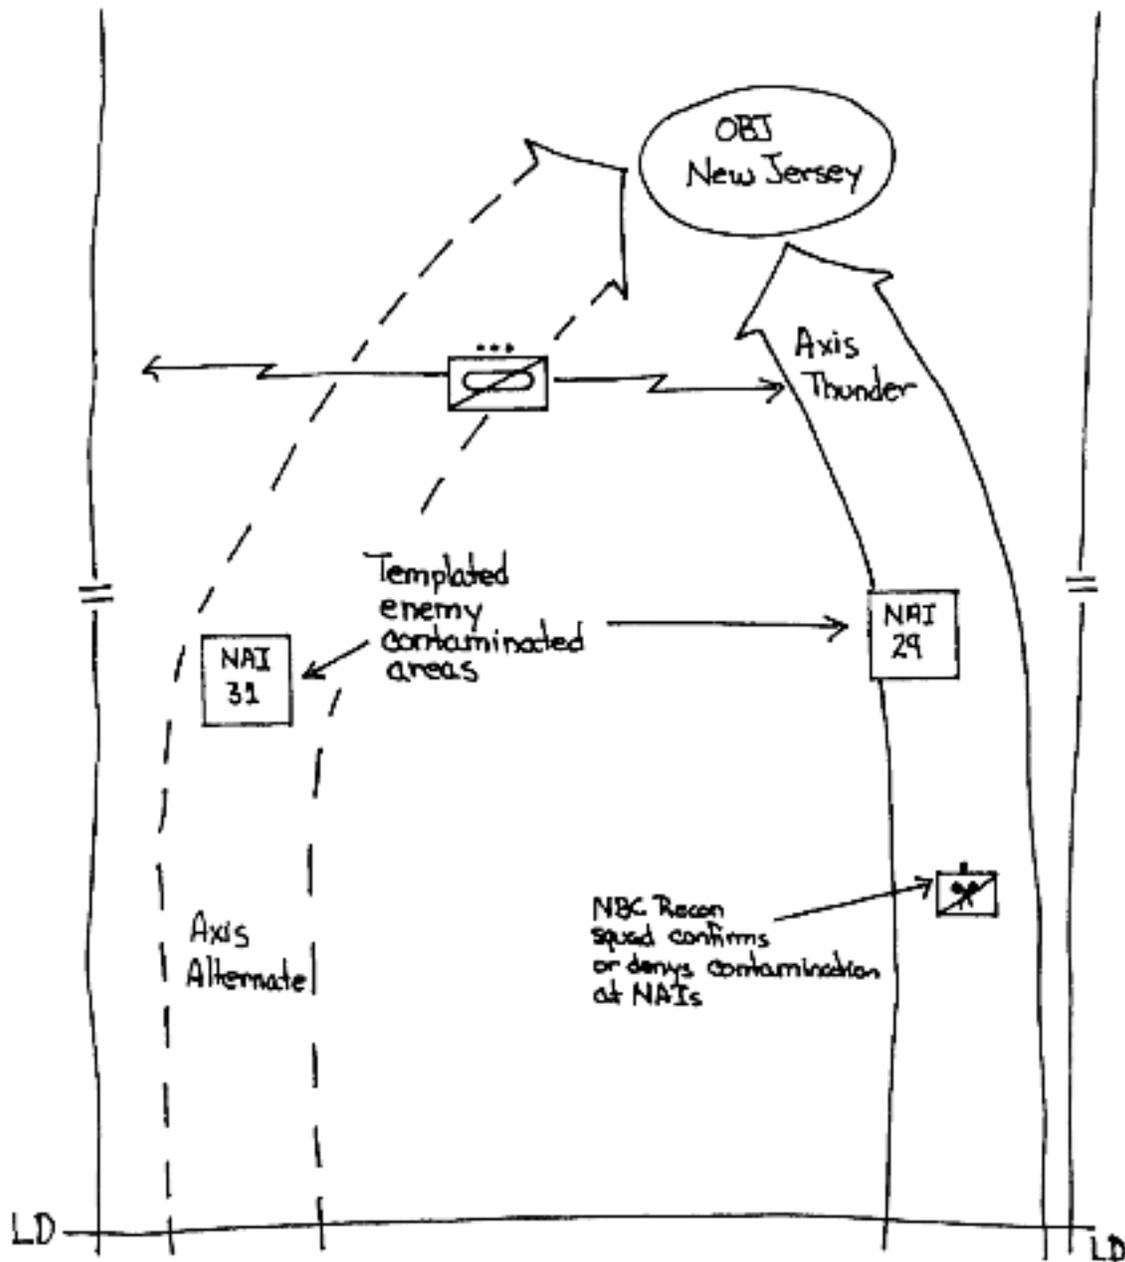

Figure 5-4. Battalion/task force supported by an NBC reconnaissance squad.
Figure 5-4 is an example of a battalion task force (TF) supported by an NBC recon squad. The NBC recon squad is attached to the TF's scout platoon. The S2 and chemical officer have templated a possible persistent chemical attack that could influence maneuver along the TF's planned axis of advance. The NBC recon squad has the mission of performing a route recon along the TF's planned axis to the designated NAI. The NBC recon squad will confirm or deny the presence of contamination at the NAI. The main body of the scout platoon will cross the line of departure three hours before the NBC recon squad. A tank platoon will be on standby to assist the NBC recon squad if the squad contacts enemy forces and cannot break contact. The scouts moving ahead of the NBC recon squad provide a minimum of security to the NBC recon squad.